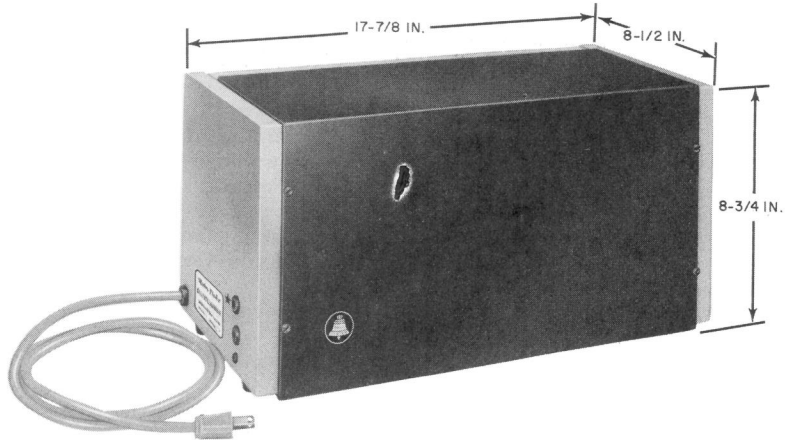
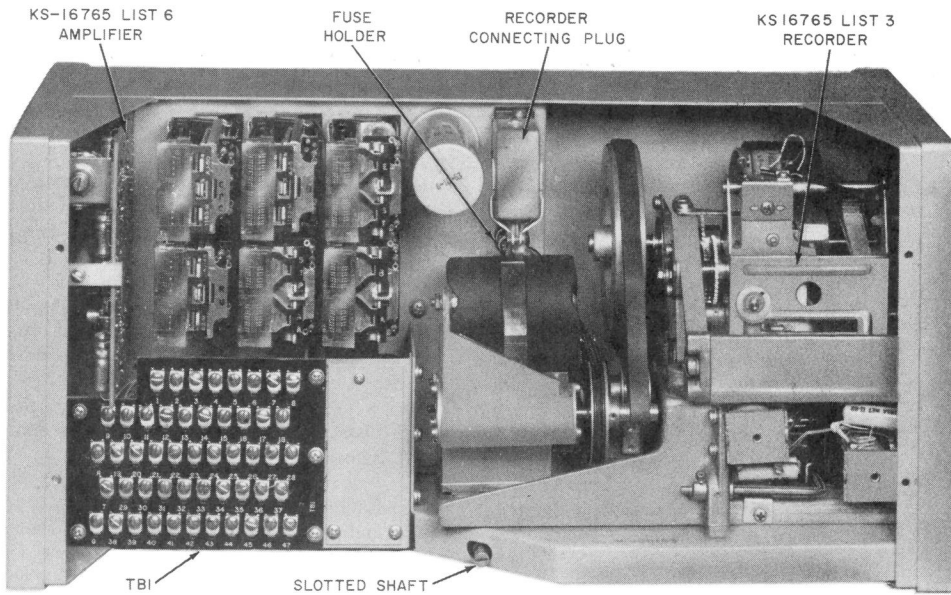

Fig. 1—KS-16765, Lists 1 and 2 Announcement Set Dimensions
Fig. 2—KS-16765, List 1 Announcement Set, Front Cover Removed
**2.01** The KS-16765, Lists 1 and 2 announcement sets (Fig. 1) feature:
**2.05** Each set weighs approximately 40 pounds and is housed in a metal cabinet that has a removable front and back (Fig. 2, 3, 4, and 5). The cover has a blue gray enamel finish and the chassis has a light olive gray finish. Dimensions are shown in Fig. 1.
**2.07** A 1/2-amp fuse is provided in these sets for electrical protection (Fig. 2 and 4).
**2.08** The KS-16765, Lists 1 and 2 announcement sets (Fig. 2, 3, 4, and 5) incorporate the following:
- (1) Remove announcement set front cover.
- Loosen four captive screws on front cover (Fig. 1).
- (2) Remove recorder connecting plug from plug-in receptacle.
- (3) Remove List 3 recorder.
- (4) Insert new recorder into cabinet.
- (5) Release bail shipping lock.